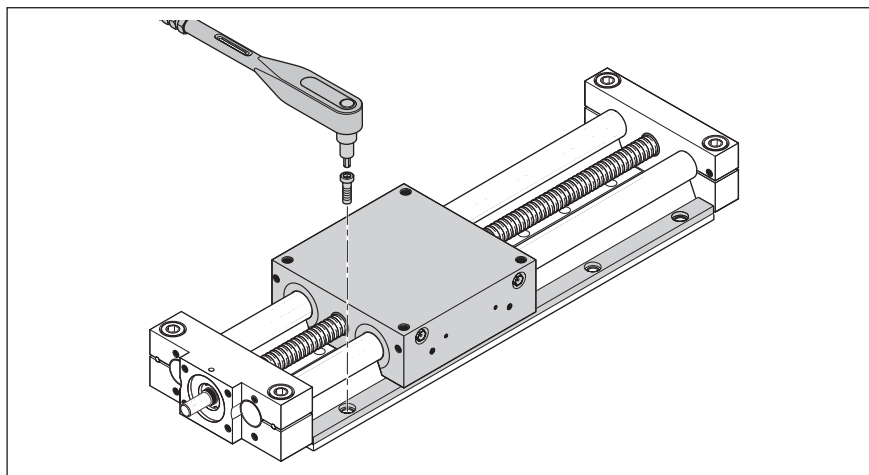

Fig. 9: Fastening the shaft support rails
7. To fasten the second shaft support rail, move the carriage to one end of the Linear Motion Slide and drive in one screw for a few turns without tightening it ➡ ☒ Fig. 9 on page 14.